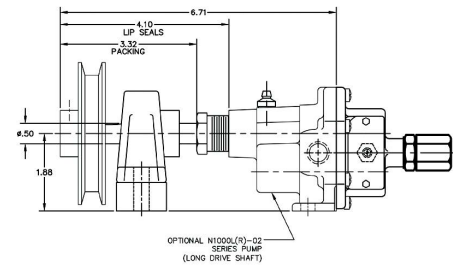

FIGURE 1
1. When space is an issue, use an optional “long shafted” pump and add a properly shimmed pillow block bearing (see figure 1).